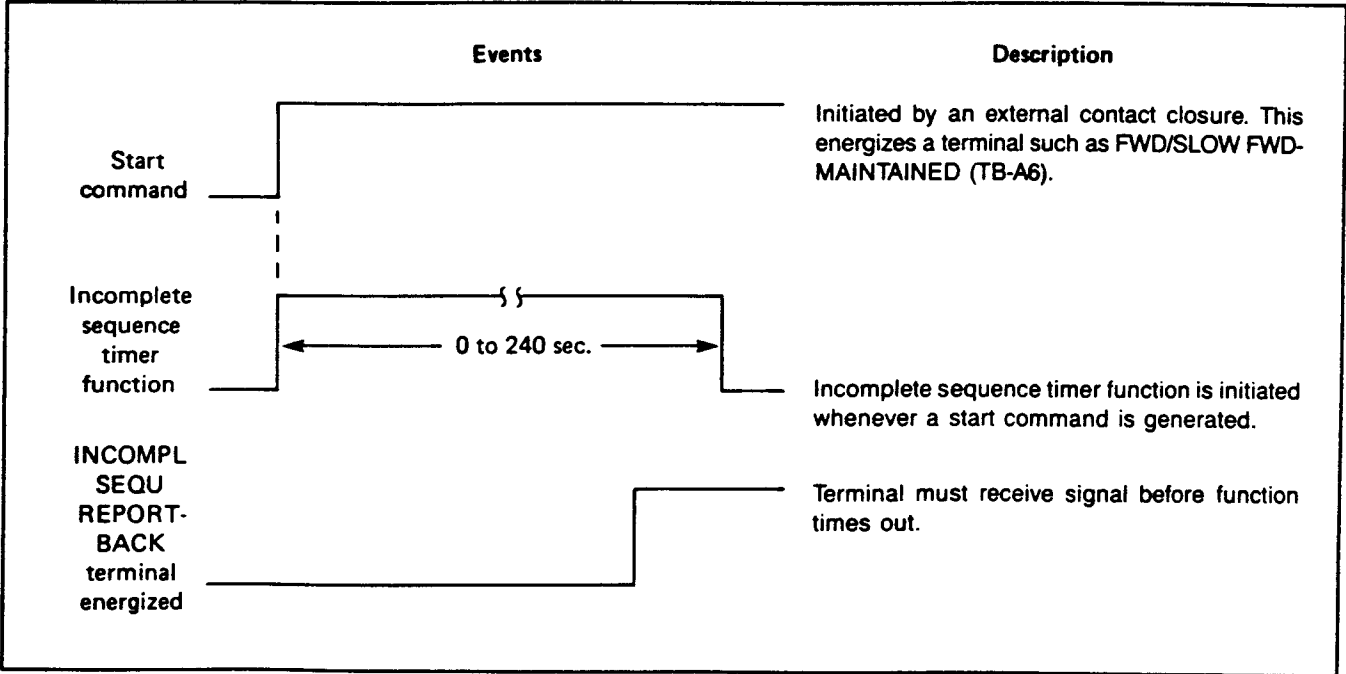

Figure 6.5 — Incomplete Sequence Events Diagram
6.17 Incomplete Sequence — The incomplete sequence setpoint function is applied during a start cycle. It initiates a stop cycle if, at the end of the programmed time, the report-back signal is not received at the INCOMPL SEQ REPORT-BACK terminal TB-A14. (See Figure 6.5.) Typical applications for this function include monitoring for critical associated conditions